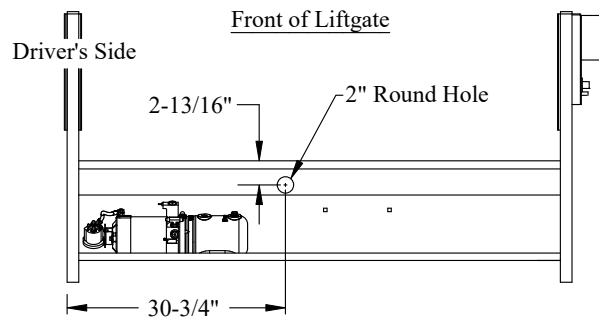

Figure 13: Spare tire access.
2. **Remove and Discard** the black plastic plug from the 2" round hole at the dimensions shown (Figure 13).